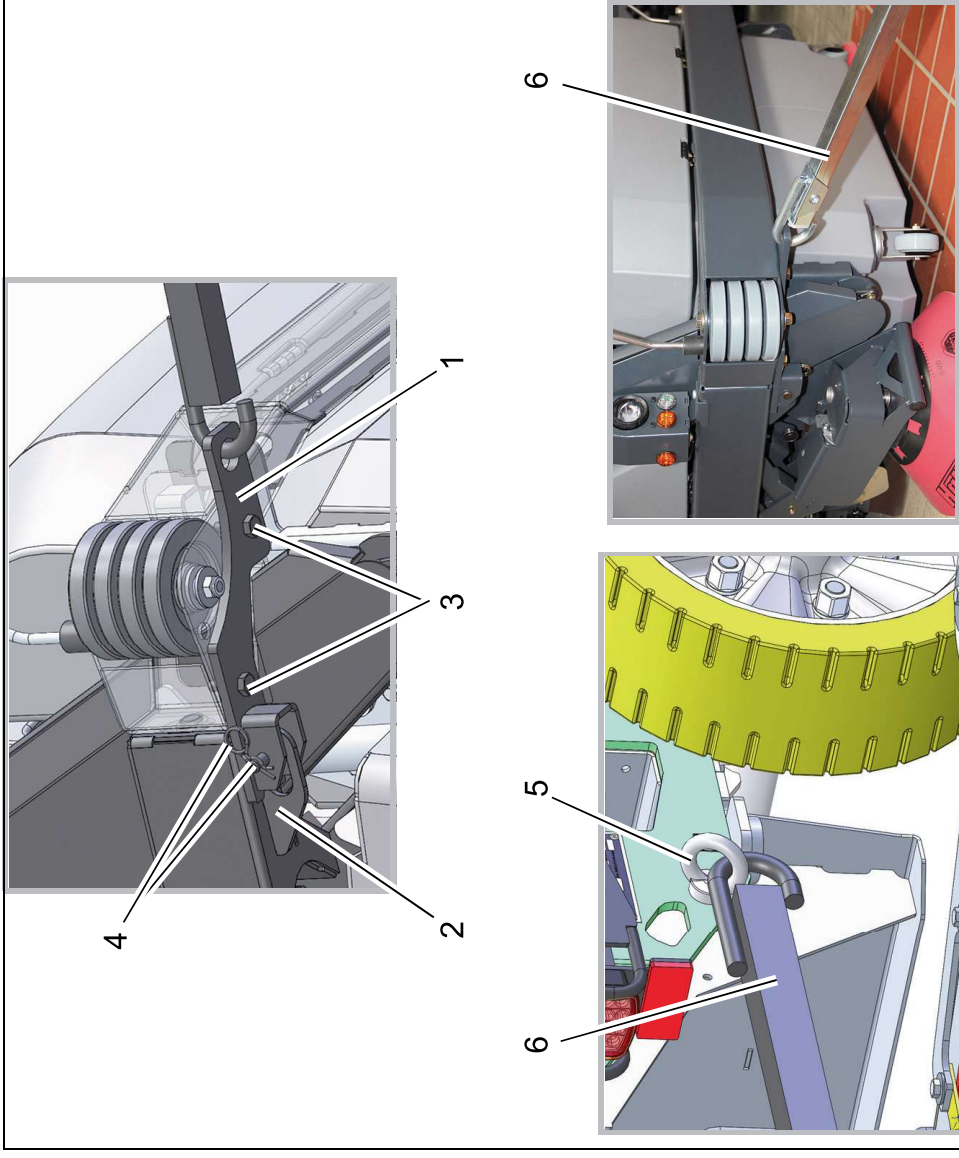

Fig. 3
1. Slide the towing coupling (Fig. 3/1) over the tab (Fig. 3/2) underneath the bar according to the illustration.
2. Attach the towing coupling with both M12x35 hexagon head bolts (Fig. 3/3) and secure it with the bolt (Fig. 3/3) and the split pin (Fig. 3/4).
Insert the eyebolt (Fig. 3/5) at the rear on the right-hand side of the machine through the existing hole and secure it with the M12 nut.
The machine can be towed with a standard towbar (Fig. 3/6) for cars up to 3 t.